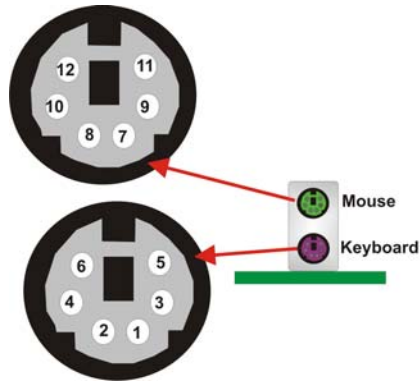

Figure 3-25: PS/2 Pinouts
- CN Pinouts:** See **Figure 3-25** and **Table 3-22**